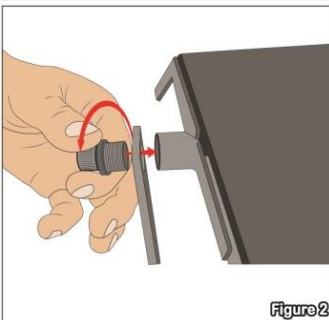
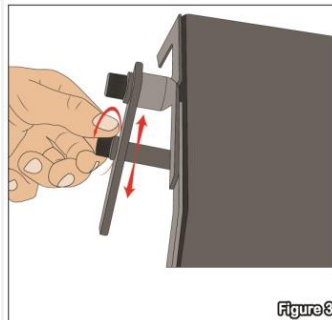

Figure 2
Figure 3
**Step 2** – As shown in **Figure 2**, take the steel track sheet (Part E) and screw to the middle bottom part of the panel by using the 3/8" to 5/8" adapter (Part B) and Steel knob with 3/8" thread male (Part D). On the end of the steel track sheet (Part D) insert the tube with 3/8" thread male (Part C) and secure using the 3/8" to 5/8" adapter (Part B) as shown in **Figure 3**. At the tip of the tube insert the 3/8" to 5/8" adapter (Part B) then the 5/8" washer (Part A).